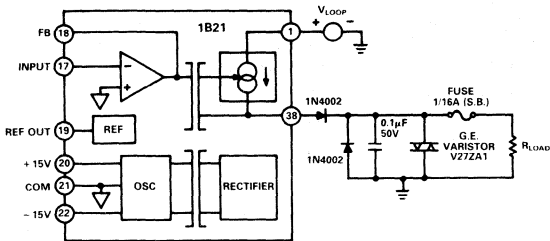

Figure 3. Output Protection Circuitry
**Output Protection:** In many industrial applications it may be necessary to protect the current output from accidental shorts to ac line voltages in addition to high common-mode voltages and short circuits to ground. The circuit shown in Figure 3 can be used for this purpose. The maximum permissible load resistance will be lowered by the fuse resistance (typically  $8\Omega$ ) when protection circuitry is utilized.